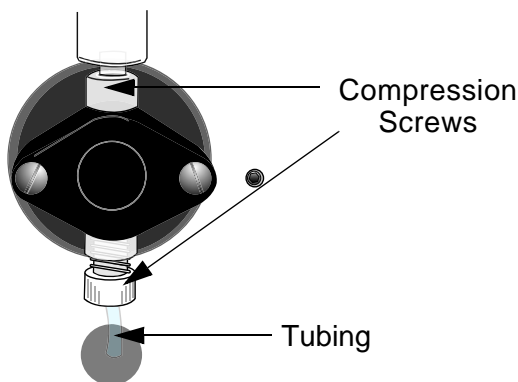

Figure 5-13. Pump, Front View
1. One piece at a time, unscrew the pump's compression fittings (see Figure 5-13) and secure the tubing to the front of the system with a piece of tape.